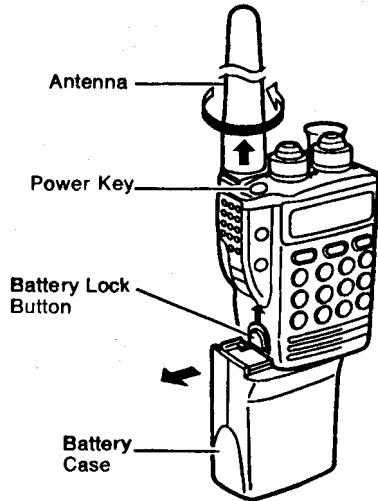

Figure 4-9
- (a) Remove the battery case from the transceiver as shown in Figure 4-9.